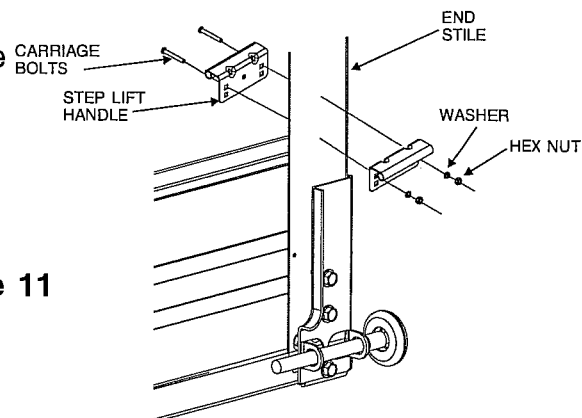

Figure 11
3. Secure lift handles with (2) 1/4" carriage bolts, lock washers and nuts. See Figure 11.